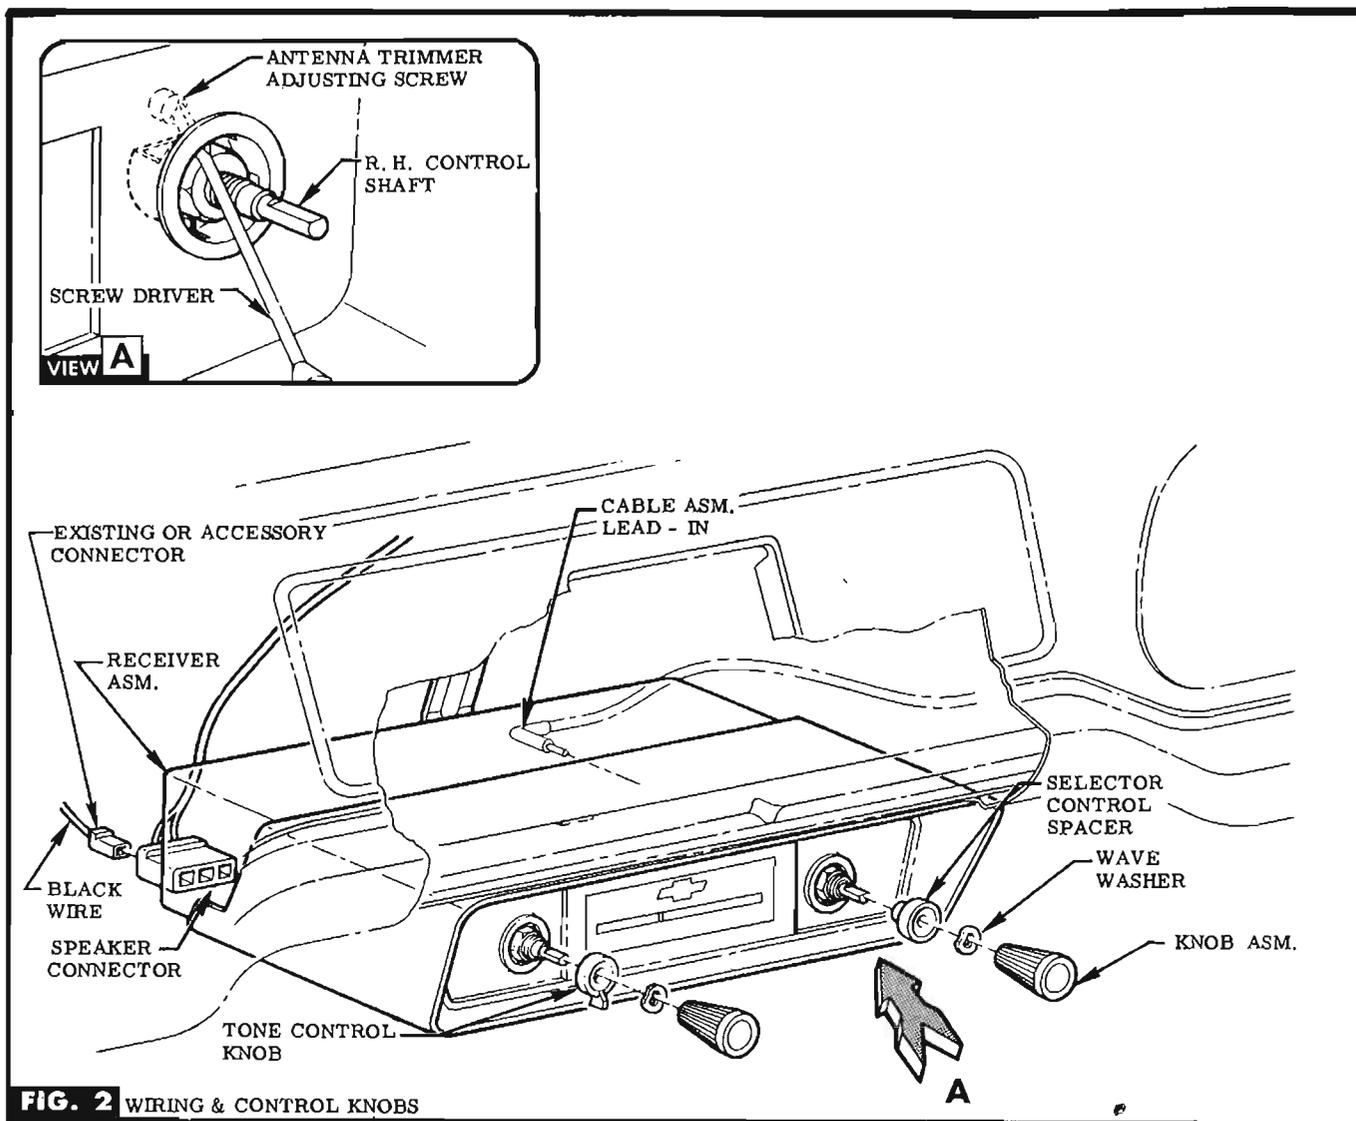

FIG. 2 WIRING & CONTROL KNOBS
STEP 6 INSERT CABLE ASM. LEAD-IN INTO SOCKET AT BACK OF RECEIVER. PLUG SPEAKER CONNECTOR INTO TERMINAL AT BACK OF RECEIVER. SEE FIG. 2.
STEP 7 UNTAPE RADIO CONNECTOR FROM INSTRUMENT PANEL WIRING HARNESS & INSERT IT INTO SPEAKER CONNECTOR. IF EXISTING HARNESS HAS NO RADIO CONNECTOR, PROCURE ACCESSORY HARNESS UNIT NO. 988350 FROM STOCK & INSTALL IN VEHICLE. SEE FIG. 2.
STEP 10 PLACE TONE CONTROL KNOB WAVE WASHER & KNOB ONTO L. H. CONTROL SHAFT. SEE FIG. 2.
STEP 12 PLACE SELECTOR CONTROL SPACER, WAVE WASHER, & KNOB ONTO R. H. CONTROL SHAFT. SEE FIG. 2.